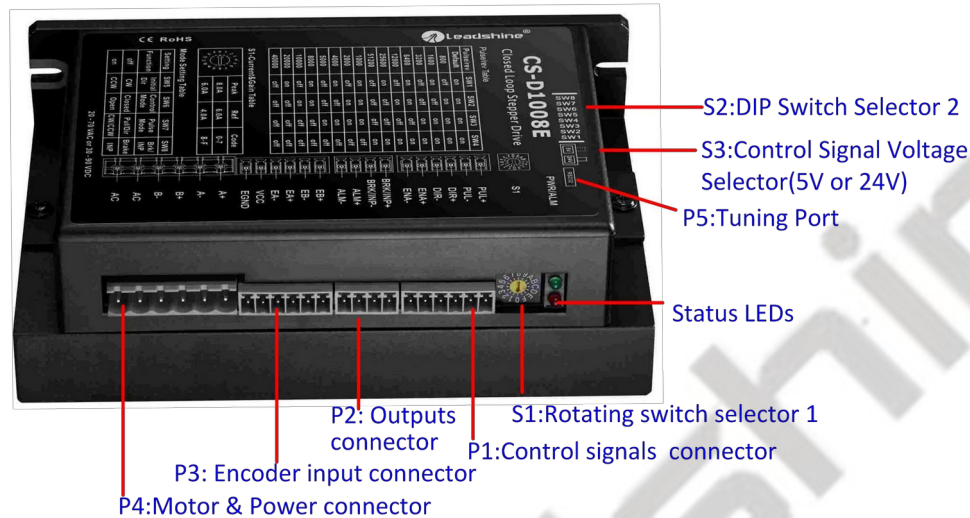

Figure 2: CS-D1008E connectors
A CS-D1008E closed loop stepper drive has 5 connection blocks from P1 to P5 (see figure 2).
The P1 connector in Figure 2 contains connections for control signals.
**Notes:** (1) ENA signal is not connected as default;
(2) Control signal amplitude is 24 V as default. If it is 12 V, please set the S3 (Figure 2) selector switch to 5 V first, then connect 1K $\Omega$  resistor; If it is 5V, please set the S3 to 5V.
The P3 connector in Figure 2 is for encoder signal connection. Refer to the following table for details.
The P4 connector in Figure 2 is for motor and power connection. Refer to the following table for details.
The P5 connector in Figure 2 is a RS232 communication port for PC connection. Refer to the following pin definitions. CS-D1008E has a tuning port with RS232 to modify the drive parameters, it is just used to modify parameter, not for equipment control because neither precision nor stability is sufficient. If you need a field bus drive, use a Leadshine RS485 or EtherCAT type drives